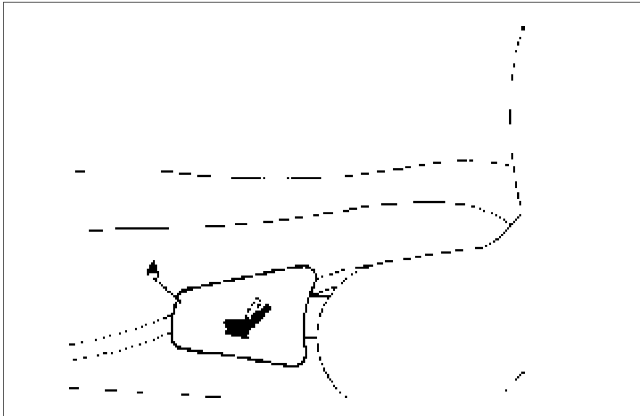

Fig.45
The position of the release lever is on the left hand side of the seat (A Fig.45). While sitting on the seat pull the release lever upwards to release the back rest. (The back rest is spring loaded to fold onto the seat cushion). Lean back to obtain the desired position for the back rest and release the lever to locate in one of the pre set positions.
4. ACHTERLEUNING (afb. 45)